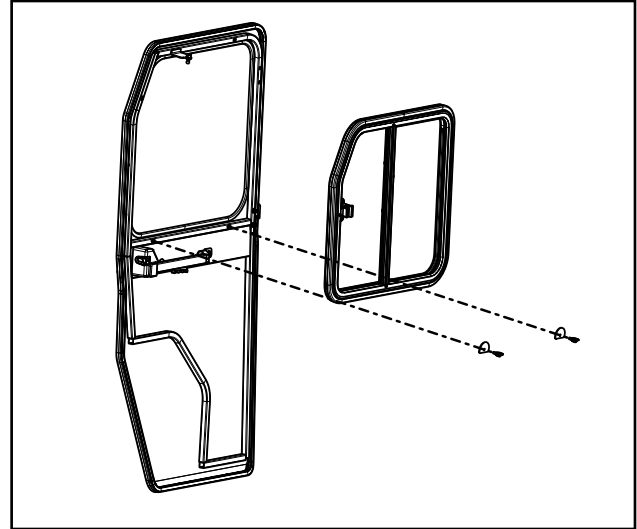

Fig. 11.1 Removable sliding windows
**11.1** The doors are packaged with the removable sliding windows installed. Per figure 11.1, remove the sliding windows to ease assembly. To do so, loosen the thumb screw at the bottom of the sliding window.